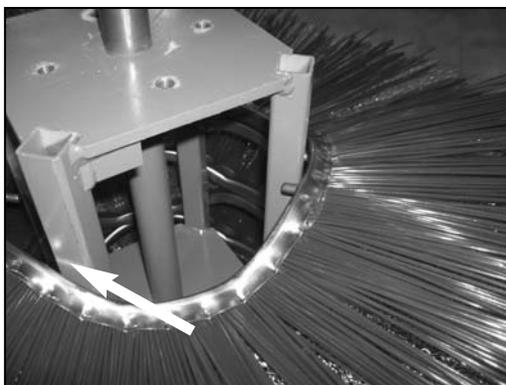

Figure 32
9. **Install a second section with drive pins rotated 180° from those on the first section (Figure 32).**